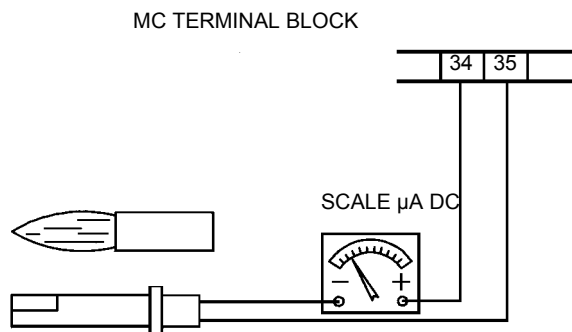

Fig. 25
- Check and clean the detection photoresistor, adjust and, if necessary, replace it (Fig. 25).
To measure the detection signal follow the diagram in Fig. 25.